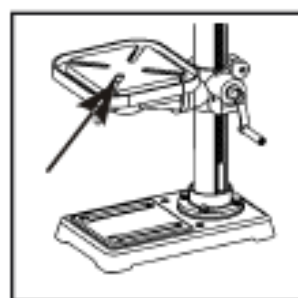

Fig 12
Locate the securing bolt underneath the table(10). With a suitable socket loosen the bolt. On the table support assembly casting there is a graduated 0 - 45° scale. Set the table(10) to the required angle and retighten the bolt. Note: The graduated scale is for guidance only we recommend the use of an engineers protractor when setting any angles. (Fig 12)